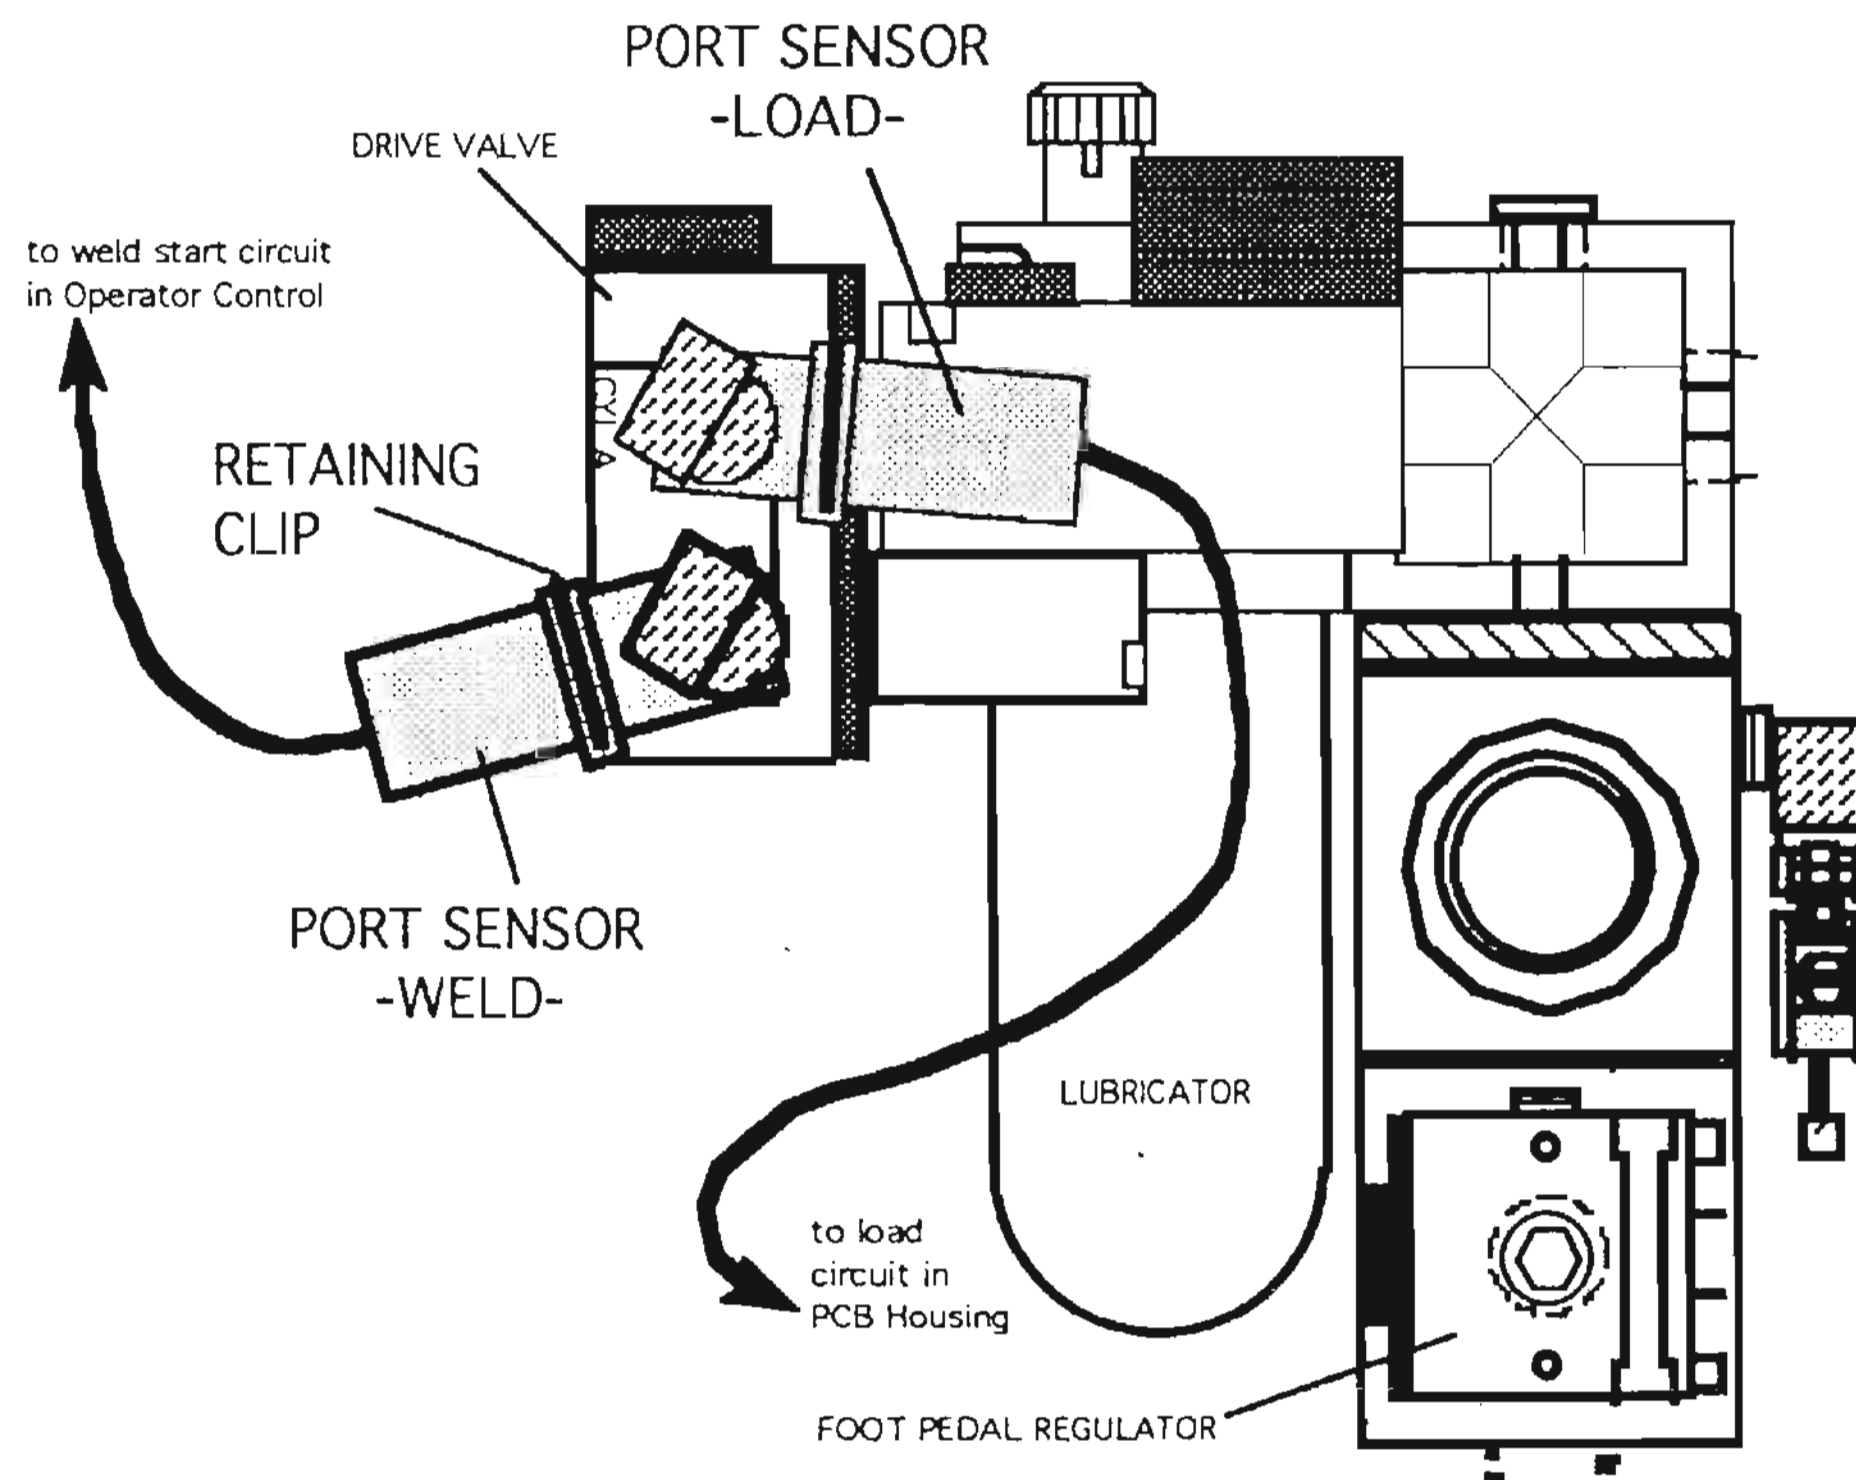

Fig 5-9
1. Disconnect ALL electricity, and bleed down all air pressure! See Fig 5-9.